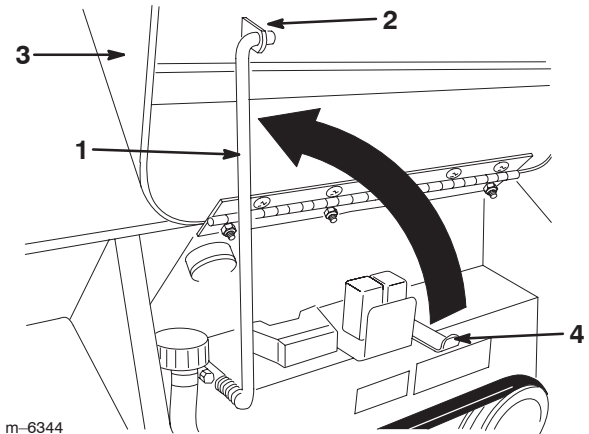

Figure 16
3. Swing the prop rod up and secure it in the bracket on the hood (Fig. 16).
1. Pull the prop rod out of the bracket on the hood and lower it into its holder (Fig. 16).